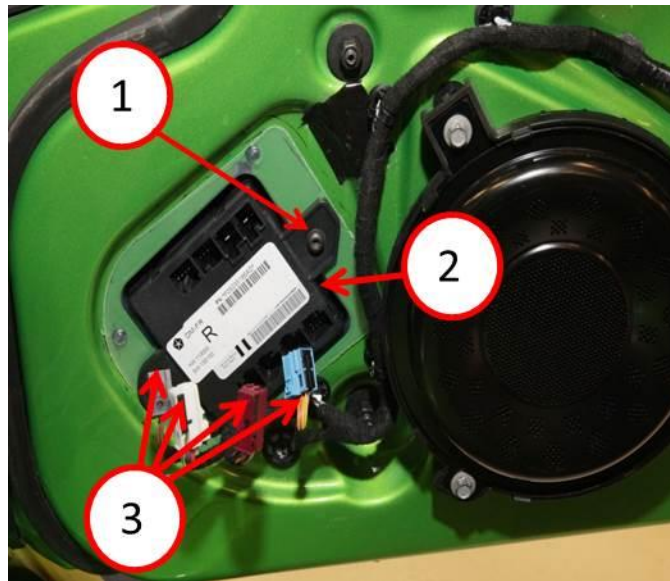

Fig. 5 Water Shield And Module
15. Install new door module with two screws (Fig. 5). Tighten the screws securely.
16. Connect the four door module electrical connectors (Fig. 5).